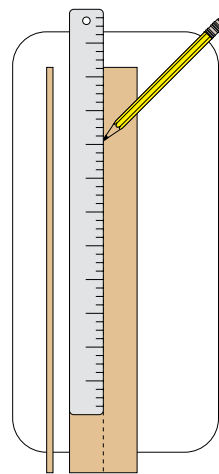

Figure 1
1. Using a metal straightedge and a utility knife, cut one of the wider (2" x 12") strips of wood in half lengthwise to make the side rails of the vehicle (Figure 1).